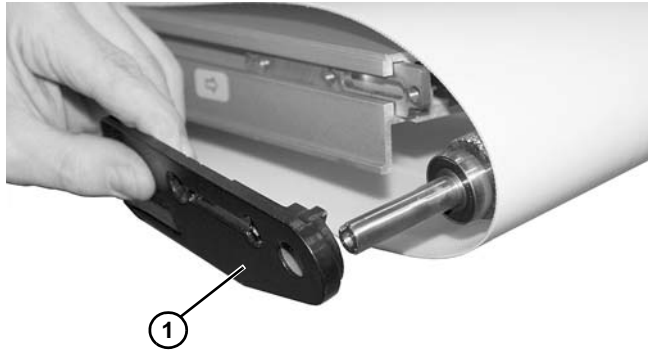

Figure 44
2. Place the head plate (**Figure 44, item 1**) and attach the head plate to the conveyor frame with the two (2) screws removed. Tighten screws 60 in-lb (7 Nm).